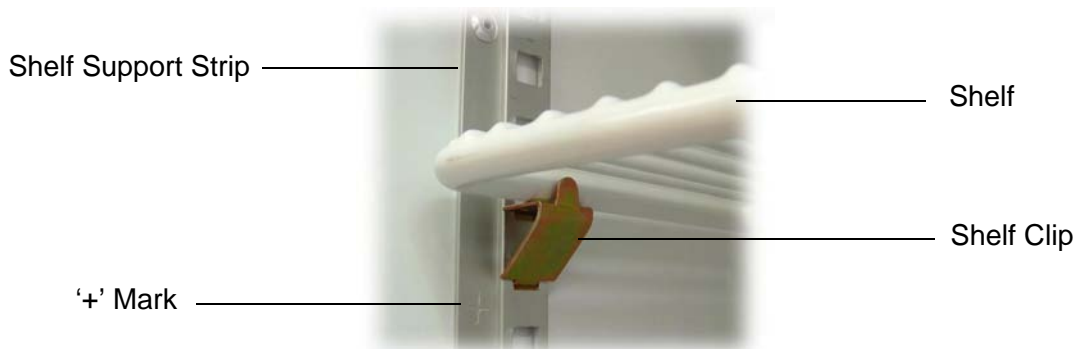

Figure 3: Shelf Clip
2. Establish the desired position for the shelves and securely engage a shelf clip in each of the shelf support strips (see Figure 3 below).